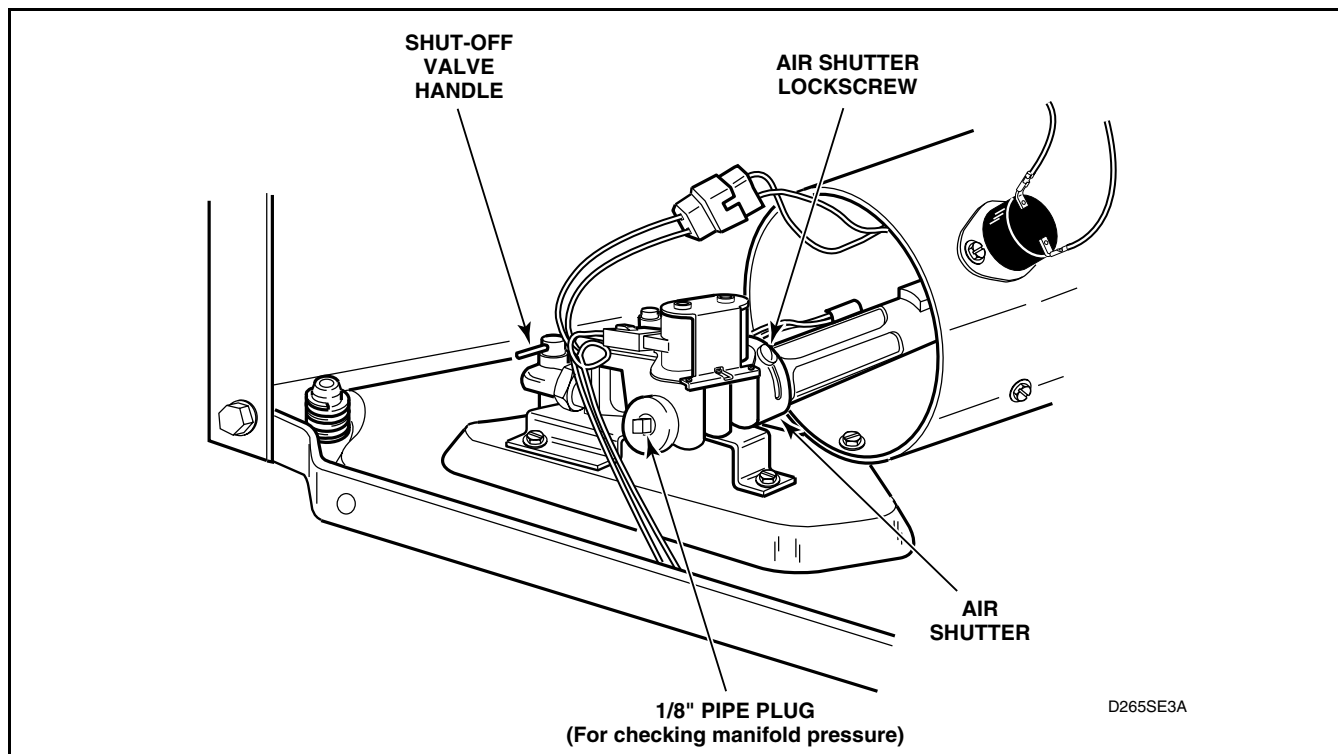

Figure 45
- Allow the dryer to operate for approximately five minutes, then loosen the air shutter lock screw. Refer to *Figure 45*.
- After proper flame is obtained, tighten air shutter lock screw firmly. Refer to *Figure 45*.
- Close main gas shut-off valve. Refer to *Figure 45*.